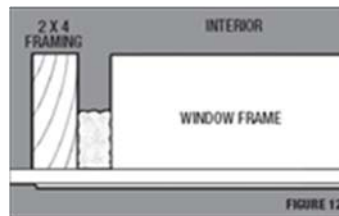

Figure 12
- 6.5.2 Apply foam to a depth of approximately ½ of the depth of the cavity between the window frame and the rough opening (Figure 12).